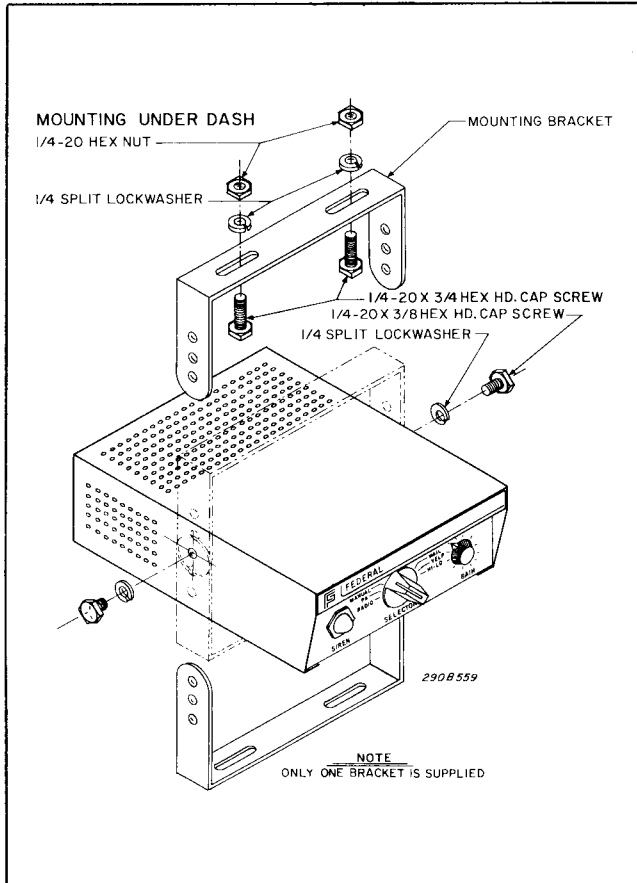

Figure 3-1. Model PA 150 Mounting Under the Dash.
The PA 150 is equipped with a swinging mounting bracket. This bracket makes it possible to install the siren in any one of a variety of positions. As indicated in figure 3-1, the siren can be mounted beneath the dashboard by positioning the bracket above the siren. Positioning the bracket below the siren allows mounting on any horizontal surface or, in conjunction with Federal's TU-70 Tunnel Mount, on the vehicle's transmission hump.
C. Secure the mounting bracket to the dash with (2 each) $\frac{1}{4}$ -20 x $\frac{3}{4}$ hex. head screws, $\frac{1}{4}$ split lockwashers and $\frac{1}{4}$ -20 hex. nuts as shown in figure 3-1.